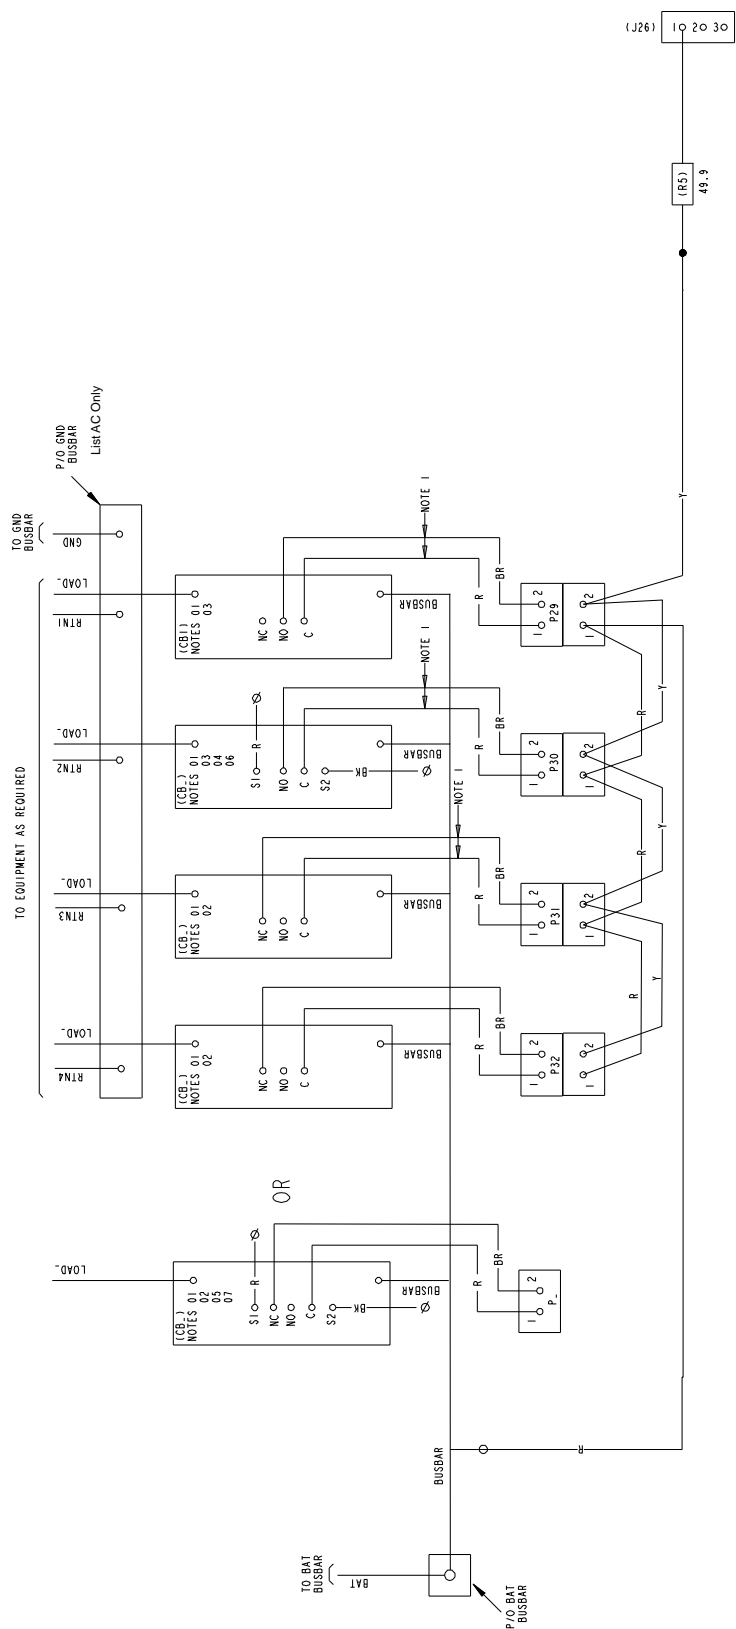
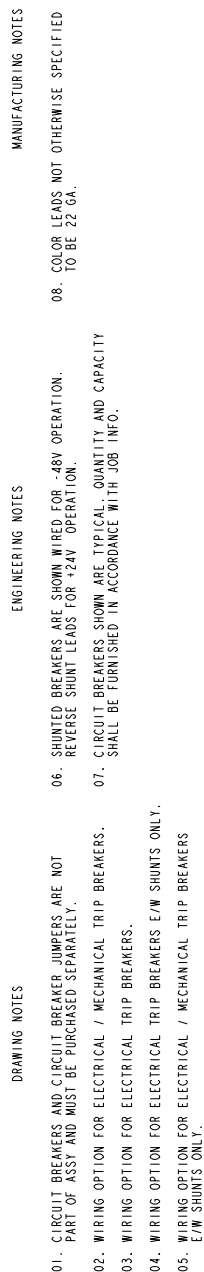

Figure 4-7
Figure 4-8
- 4) Record each alarm wire located on the back of the circuit breaker (color and location on circuit breaker). Wiring diagrams are provided in Figure 4-6, Figure 4-7, and Figure 4-8. Carefully disconnect the alarm wiring from the back of the circuit breaker, ensuring the exposed end does not contact any energized circuit.
- 5) **Shunted Breakers Only:** Record each shunt wire located on the back of the circuit breaker (color and location on circuit breaker). Wiring diagrams are provided in Figure 4-6, Figure 4-7, and Figure 4-8. Carefully disconnect the shunt wiring from the back of the circuit breaker, ensuring the exposed end does not contact any energized circuit.
- 6) Ensure that the replacement circuit breaker is in the OFF position, and is of the correct rating and type (electrical trip/mechanical trip or electrical trip only). Orient the circuit breaker over its mounting location. Re-attach the alarm wiring and shunt wiring (if applicable) to the back of the circuit breaker as recorded above. Wiring diagrams are provided in Figure 4-6, Figure 4-7, and Figure 4-8.